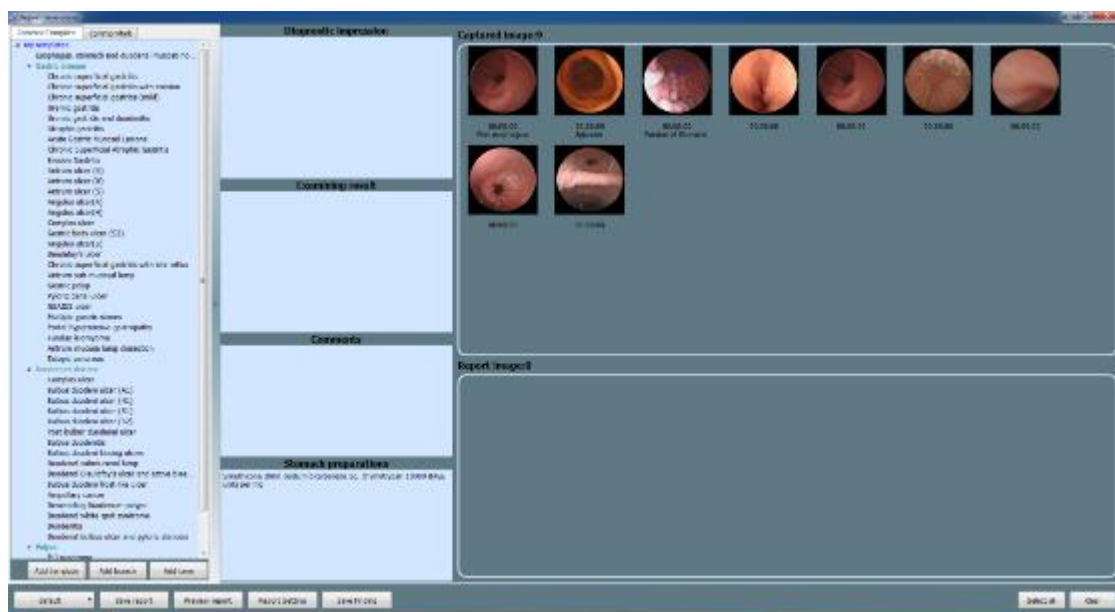

Figure 4-102 Report Generation Interface
1. On the Image Browsing interface as shown in Figure 4-12, click  to access the Report Generation interface as shown in Figure 4-102.
8. In the Report Generation interface as shown in Figure 4-102, click "Save Report" to access the Save Report interface as shown in Figure 4-109. The software saves a report in *.pdf format by default, you may also choose to save in *.doc format, click "Save" to save the report. After saving, you will be directed to Save Successfully interface as shown in Figure 4-110. Click "OK" to complete report saving. Click "Open" to open the report.